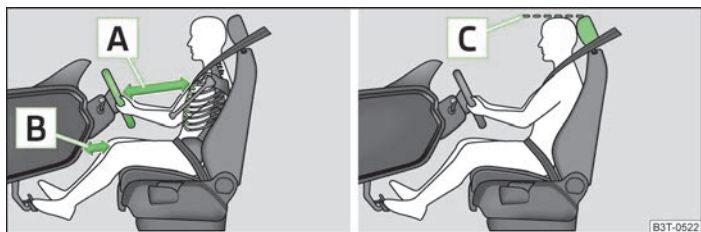

Fig. 135 The correct distance of the driver from the steering wheel and dash panel/The correct head restraint adjustment
- Position the steering wheel so that there is a gap of at least 25 cm between the steering wheel and the chest **[A]** » Fig. 135, and that the distance between the legs and the dash panel at the height of the knee airbag is at least 10 cm **[B]**.
- Adjust the head restraint so that the top edge of the head restraint is at the same level as the upper part of your head **[C]** » Fig. 135 on page 142.
- Adjust the head restraint so that the top edge of the head restraint is at the same level as the upper part of the head **[C]** » Fig. 135 on page 142.